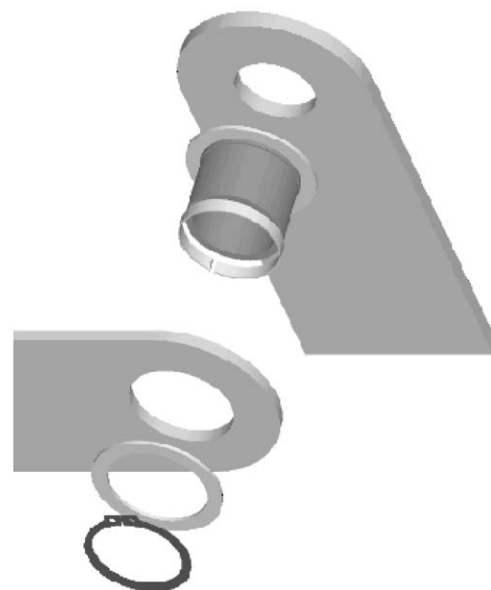

Figure 3-8
- 3.4.2 Before installing, be sure the power is off. Refer to **Figure 3-8** for parts overview.